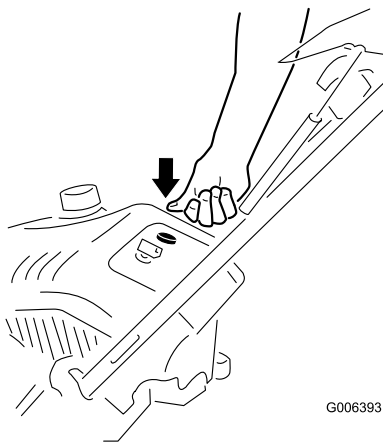

Figure 16
3. Firmly push in the primer 3 times with your thumb, holding the primer in for a second before releasing it each time (Figure 16).